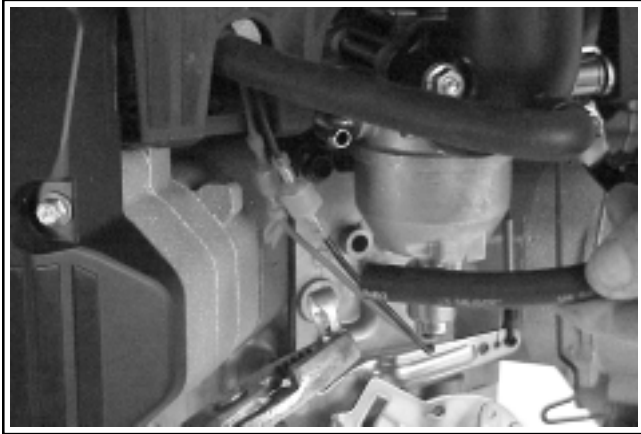

Figure 9-11. Removing Fuel Line at Carburetor.
2. Disconnect the fuel lines at the inlet of the carburetor, and the in-line fuel filter. See Figure 9-11.